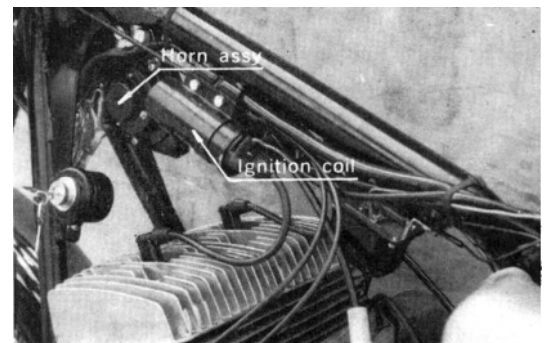

Fig. 48 Removing cylinder and piston
1. The cylinders and pistons can be removed without removing the engine from the frame by removing the dual seat, fuel tank, horn and ignition coil. (Fig. 48)